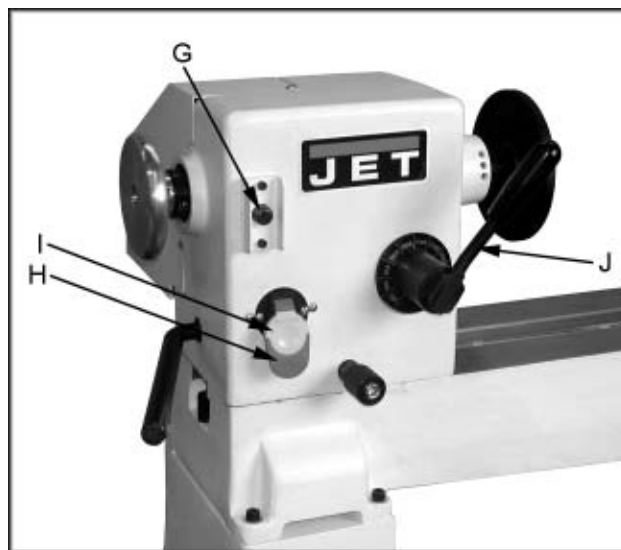

Fig. 5
- G. **Headstock Spindle Lock:** (G, Fig. 5)
- H. **Headstock On/Off Switch:** (H, Fig. 5)
- I. **Headstock On/Off Switch Key:** Remove key (I, Fig. 5) when in the "OFF" position. The switch will not work until key is reinstalled.
- J. **Headstock Speed Selector:** (J, Fig. 5)